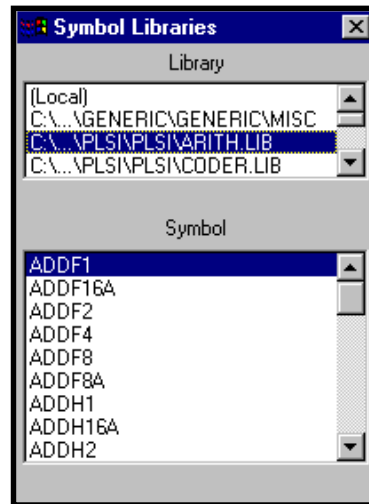

Figure 3-57. Symbol Libraries Window with ispLSI Libraries
1. Choose **Add** ⇒ **Symbol** from the Schematic Editor. The Symbol Libraries dialog box (Figure 3-57) appears.